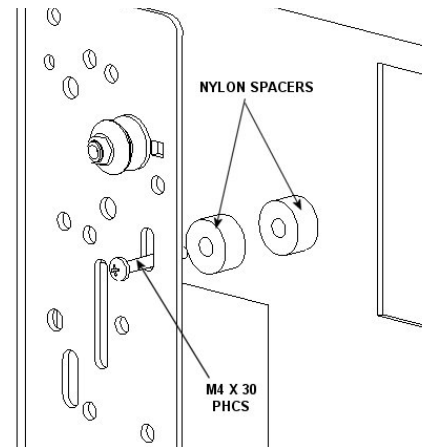
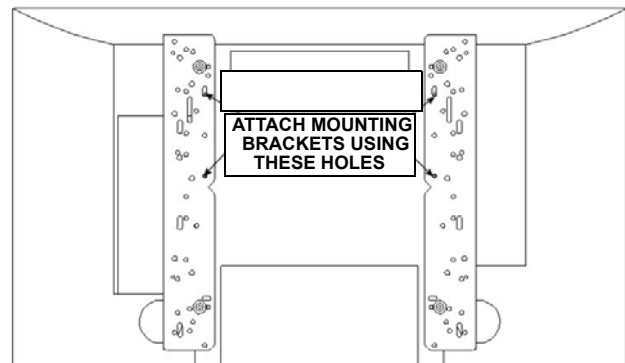

Figure 28. Spacer Installation for Group 9
Figure 29. Bracket Attachment for Group 9
3. Place two Nylon spacers over each of the four mounting holes on your Large Flat Panel display (see Figure 28).
4. Place the interface brackets over the Nylon spacers (see Figure 28 and Figure 29).
6. Using the hardware from parts bag C, attach the interface brackets to your Large Flat Panel display (Figure 28 and Figure 29). Do not overtighten the mounting screws.